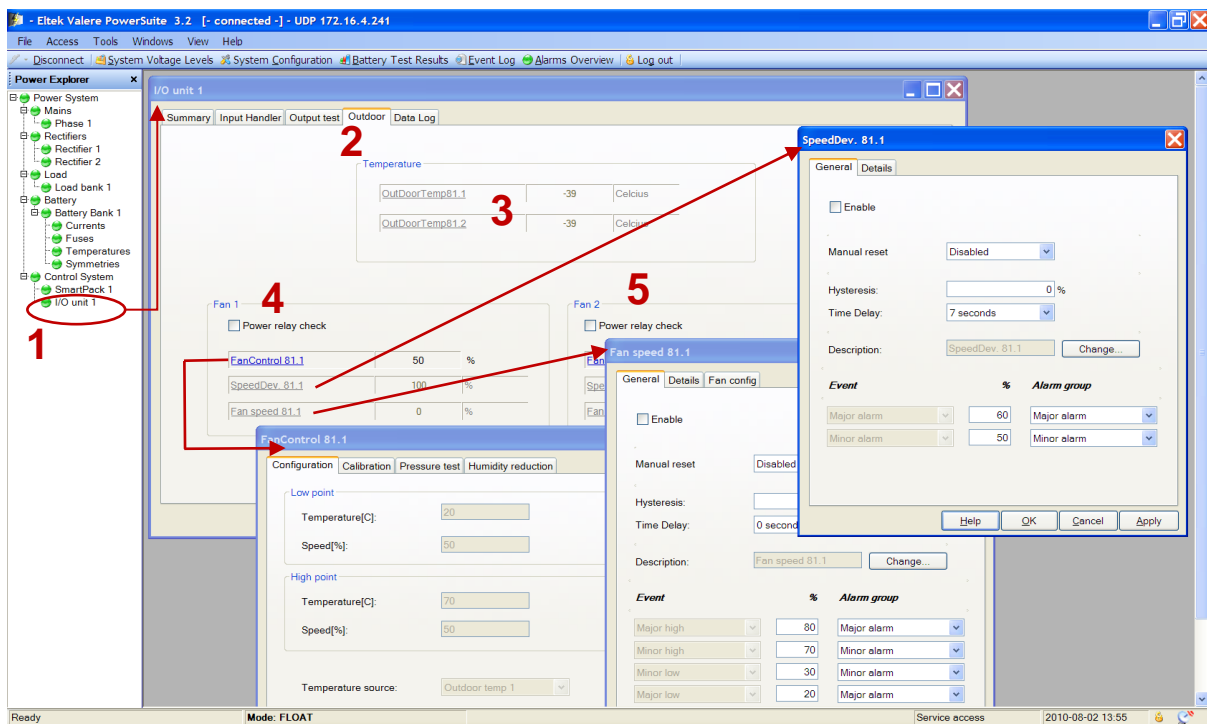

Figure 6 Example of I/O Monitor Climate Control signal configuration in PowerSuite
- Open the *I/O Monitor*'s icon under the *Control System* node (6)
- Click on the "Input Handler" tab (7)
- Click on the alarm monitor links (8) "Temp Sensor High", "Air Conditioner", etc. (enable the input, change the description, select the input activation type, the event or system internal action, the alarm output group or relays to activate, etc.)
**For configuring the I/O Monitors (T1 & T3) Climate Control signals:** (see “Figure 6”)
- A. Open the *I/O Monitor*’s icon under the *Control System node* (1)
- B. Click on the “Outdoor” tab (2)
- C. Click on the “OutDoorTemp XX.Y” alarm monitor links (3)